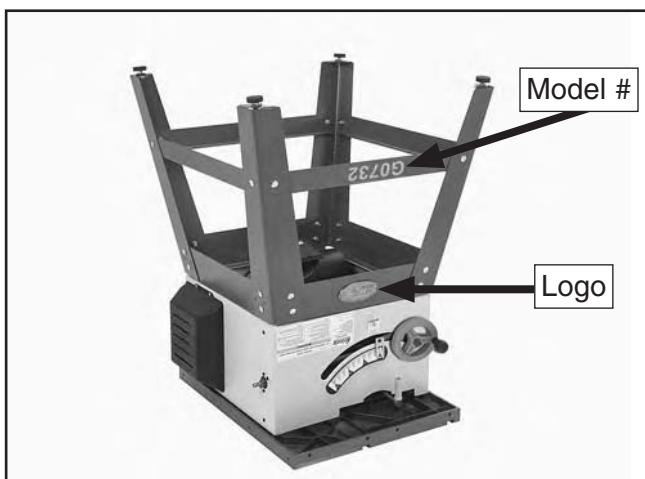

Figure 15. Stand assembly positioned on saw.
- With the help of two other people, place the saw upside down (we recommend putting it on a piece of cardboard to prevent scratching the cast iron table top), then place the stand on the saw so the Grizzly logo and model number face the same direction as the front of the saw, as shown in **Figure 15**.